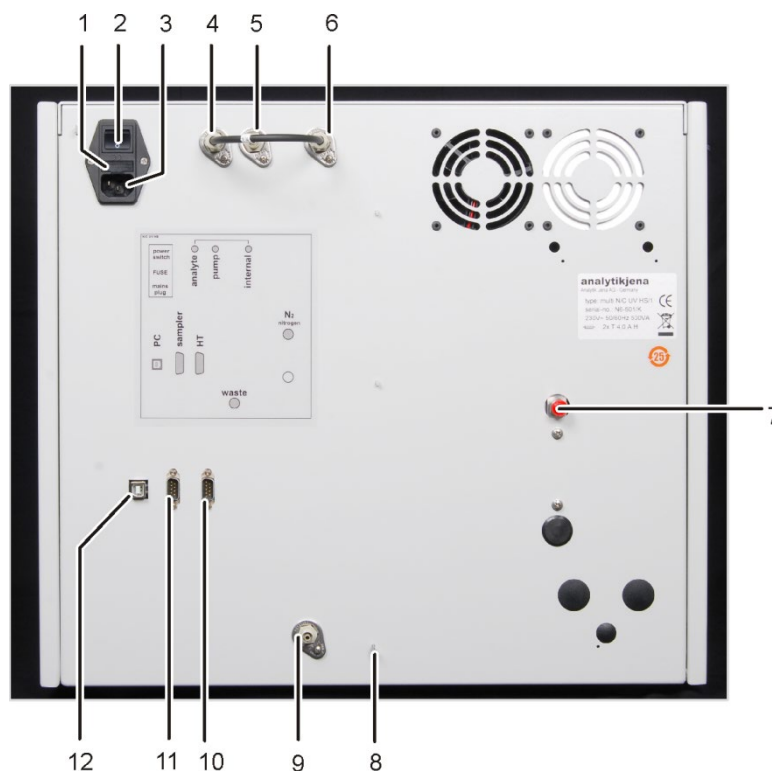

Fig. 41 Mains connection and gas connections at the multi N/C pharma UV
1. Connect the low-heat connection cable to the mains connection at the rear of the analyzer (3 in Fig. 41 p. 99).
3. Connect the connection hose supplied to the pressure reducer of the gas supply and the gas connection "N₂ nitrogen" on the equipment backplate (7 in Fig. 41 p. 99).